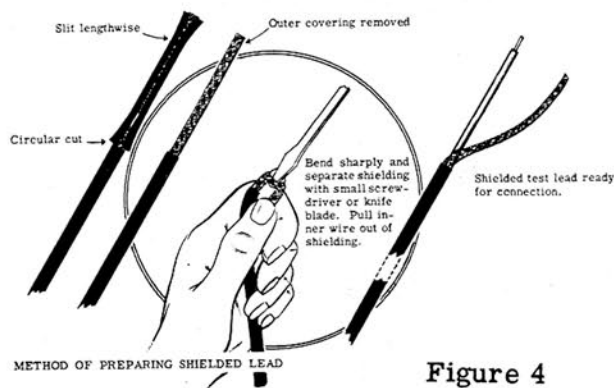

Figure 4
- () 42. Install a 33 K Ω 1 watt resistor (orange-orange-orange) from socket B8 (S) to terminal strip H1 (NS).
- () 43. Connect a short piece of bare wire from socket B6 (NS) to B7 (S).
- (✓) 44. Cut a piece of wire to a length of 9 1/2". Strip and tin both ends and connect one end to socket B6 (S). Dress the other end around socket C and place it through the large chassis cut-out as shown in Pictorial 1.
- () 45. Cut a piece of insulated coaxial cable to a length of 7 3/4". At one end, cut away 1 3/4" of rubber outside insulation as shown in Figure 4. Push the braid back until a bulge develops near the end of the outside insulation. Bend the wire over double at the bulge point, separate the braid strands and pull the inner conductor through the hole. Cut away the braid at the end of the outside rubber insulation and strip and tin the end of the center conductor.
- (✓) 100. Connect a 4700 Ω resistor (yellow-violet-red) from terminal strip AF2 (NS) to socket AA6 (NS).
- () 102. Connect one end of a 1000 $\mu\mu\text{f}$ condenser (same as .001 μfd condenser) to socket AA1 (NS). Do not cut off any wire on this component for the other end must reach the panel when installed. (Use sleeving.) Place the condenser between terminal strips AB and AC as shown.
- () 103. Install a 33 K Ω resistor (orange-orange-orange) from terminal strip AF2 (NS) to socket AA1 (S). (Use sleeving).
- () 104. Connect a 100 $\mu\mu\text{f}$ condenser (same as .0001 μfd) from socket AA3 (S) to terminal strip AC (NS). (Use sleeving).
- () 105. Install an RF choke (a form wound with fine wire) from terminal strip AF1 (NS) to AF2 (S).
- () 106. Connect a 1000 $\mu\mu\text{f}$ condenser (same as .001 μfd) from terminal AF-1 (NS) to tuning condenser frame solder lug AL (S).
- () 110. Cut a piece of insulated coaxial cable to a length of 6 1/4". Cut away 2 1/4" of rubber outside insulation as shown in Figure 4. Prepare as illustrated, pulling the center conductor through a hole made in the braid close to the end of the insulation.
- () 112. Place the long exposed inner wire through hole AD from the bottom, pulling the wire up until the end of the shielded portion of the wire rests against the bottom of the chassis. Cut the wire to length sufficient to reach terminal strip AB. Strip and tin the wire and connect it to AB (S). Make sure the braid points toward solder lug AG underneath.
- () 113. Connect the braid to solder lug AG (S) beneath the chassis.